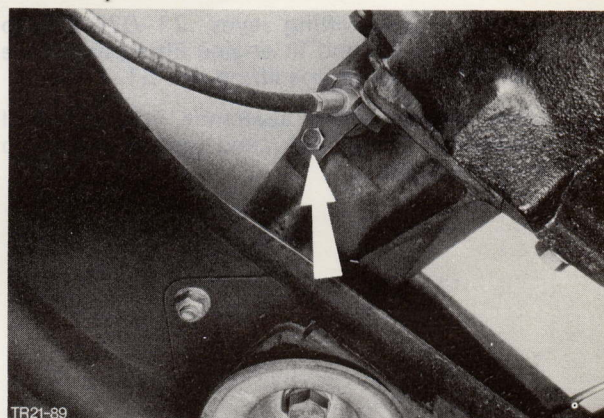

Fig. 23. Remove speedometer drive cable
18. Disconnect left-hand and right-hand earth cables from clutch housing and remove speedometer drive cable from transmission (1 bolt), Fig. 23.